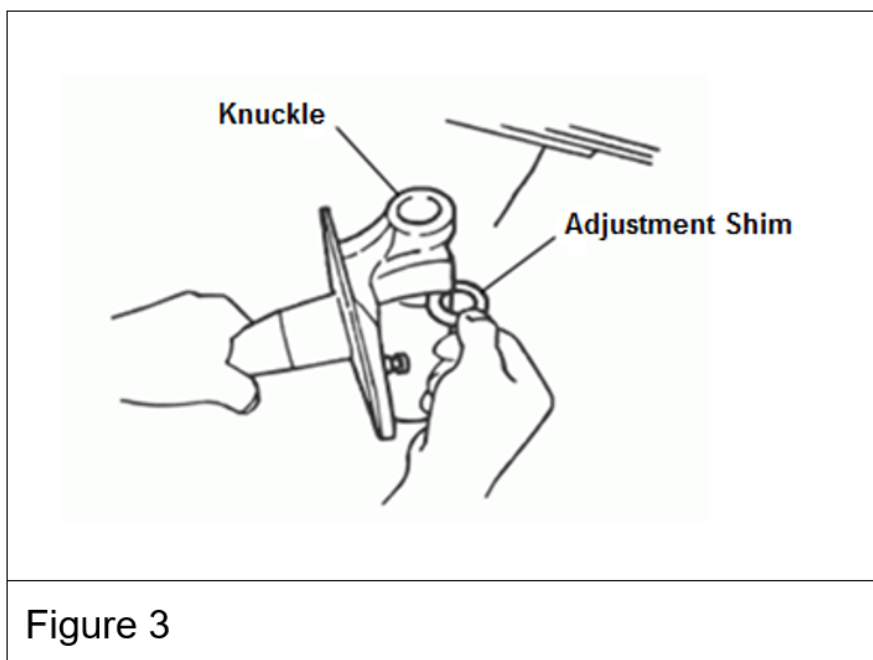
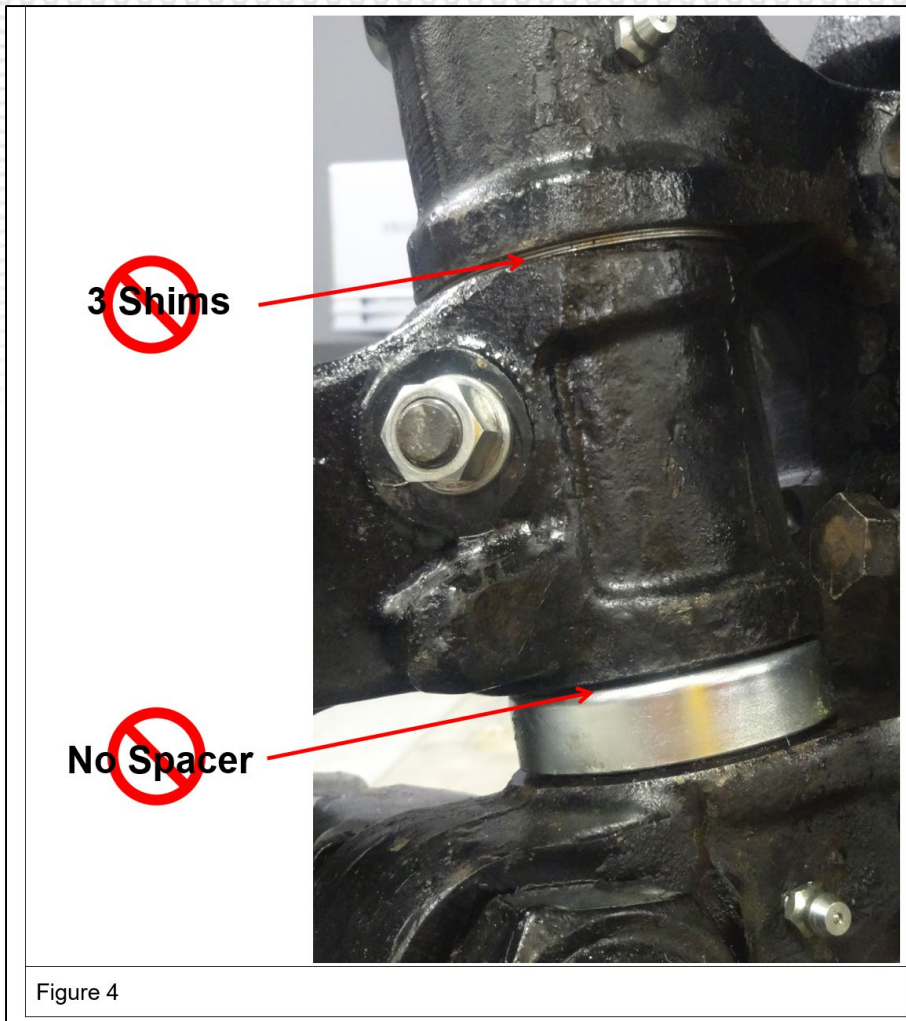

Figure 3
Figure 4
Shims are used to adjust the steering knuckle to axle clearance. (See Figure 3.) The shims are installed on the top of the axle as shown in Figure 3. Shims are available in different thicknesses. No more than two (2) shims should be installed. (See Figure 4 for an illustration of incorrect spacer and shim usage.) Refer to the applicable Workshop Manual (WSM) for further instructions and clearance specifications.